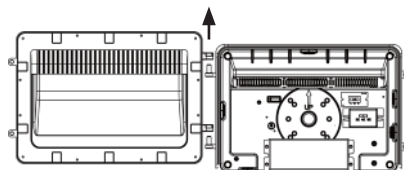

Fig. 1.2
2. Open the fixture, and remove the front cover of the fixture (Fig 1.2).